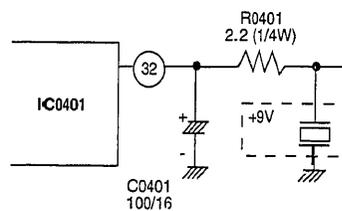

Fig. 1-4-1C
- (3) Connect a Frequency Counter at IC0401 pin (41). Use a probe of 1:1. Probe standard $R_i \geq 1\text{Mohm}$, $C_i \leq 15\text{pF}$.
(4) IC0401 pin (39) input is no signal.
(5) Apply $+9 \pm 0.1\text{V}$ to the point in the figure 1-4-1C shown below. (IC0401 +B)